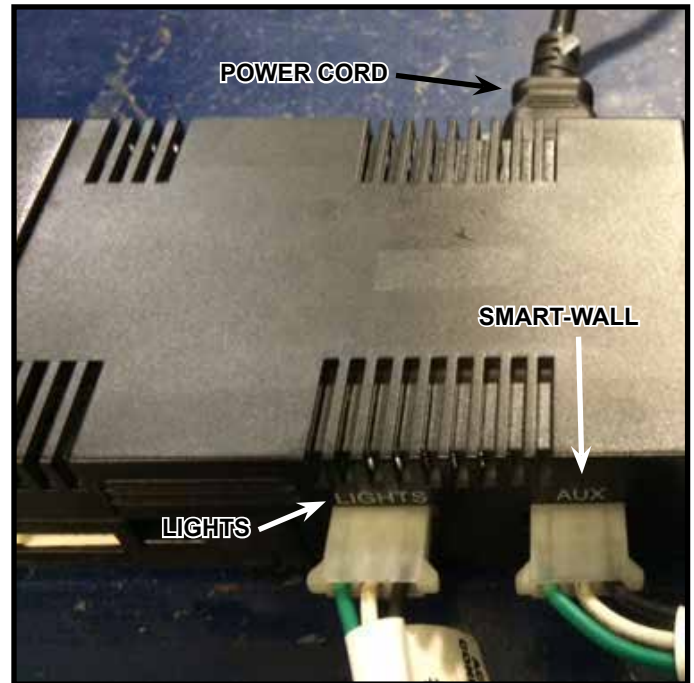

Figure 9. Fan, Lights and Smart-Wall Connection
- To connect a light kit to the IFT-ACM, remove protective rubber cap labeled 'LIGHTS' and connect the female cord that was supplied in your lights kit into the three male pins on the IFT-ACM. See Figure 9.
- To connect a Smart-Wall kit to the IFT-ACM, remove protective rubber cap labeled 'AUX' and connect the female end connector of the Smart-Wall control module leads to the three male pins on the IFT-ACM. See Figure 9.